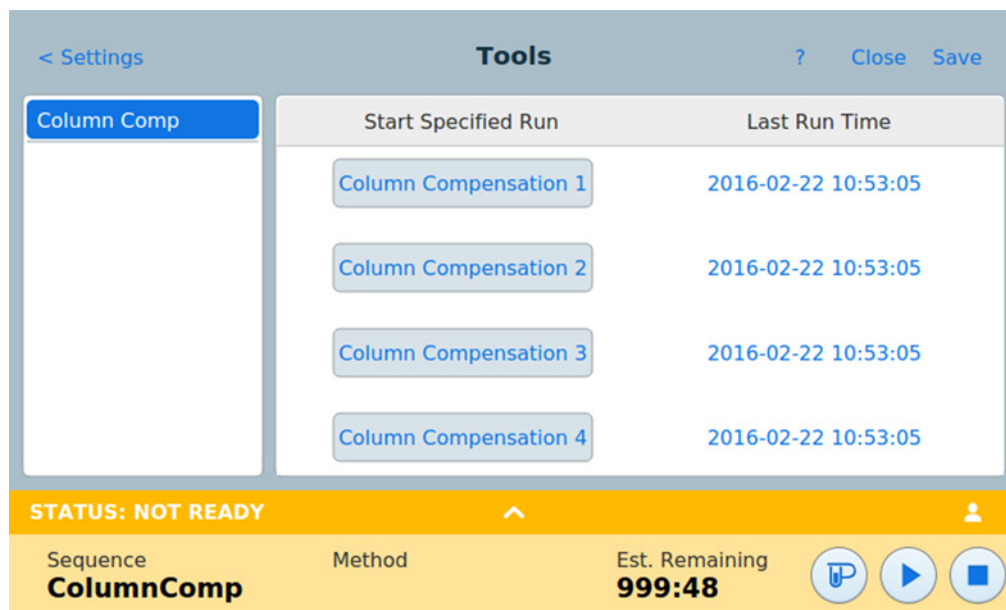

Figure 51 Tools page
The Tools page allows you to perform column compensation runs for the installed columns on the GC. See Figure 51.
- 1 With the Tools page displayed (see Figure 51 on page 121), press the desired **Column Compensation** in the **Start Specified Run** column. The GC performs the column compensation run. No injection occurs as a part of this run.